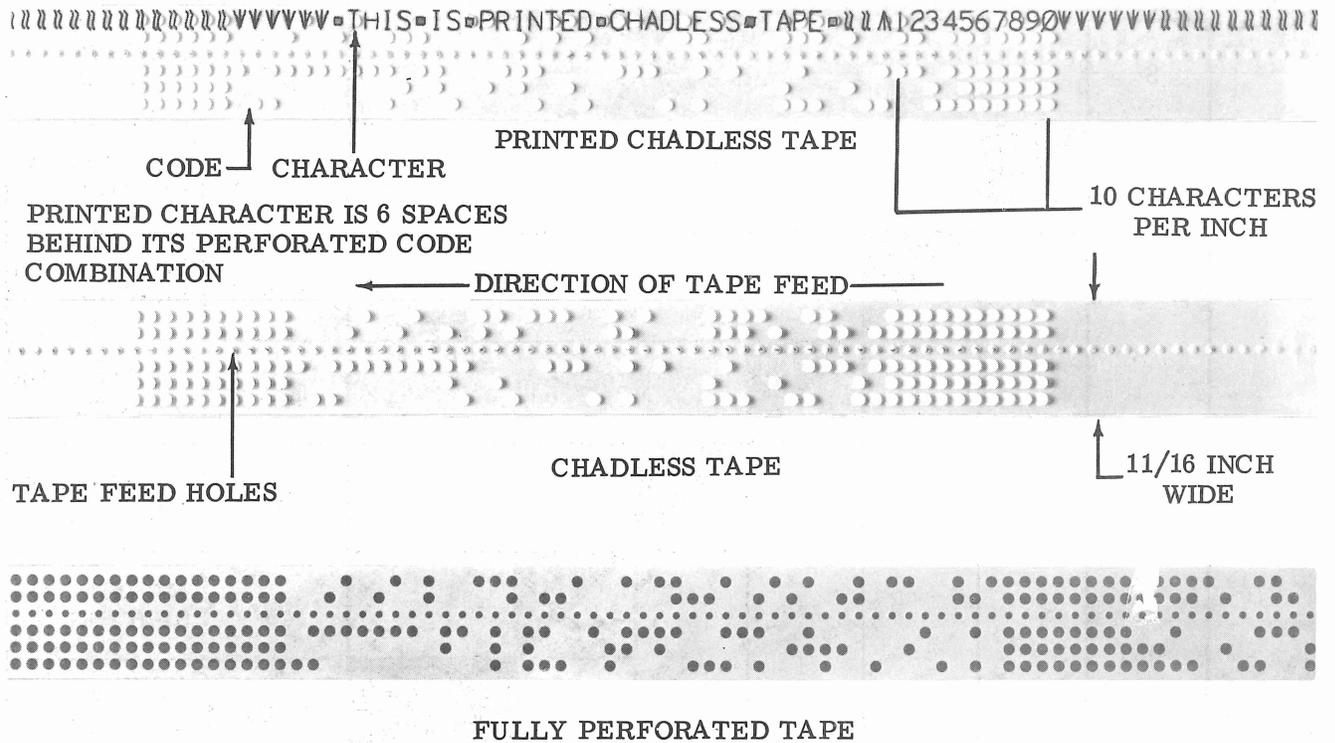

Figure 4 - Standard 5-Level Perforated Tapes
1.05 The transmitter distributor uses a single camshaft to start, and sequentially perform, the functions of sensing the intelligence stored in a perforated tape. An electrical contact is linked to certain mechanisms to translate the intelligence sensed into pulses of current (marking) and no current (spacing). The unit accepts either chadless or fully perforated tape (Figure 4).